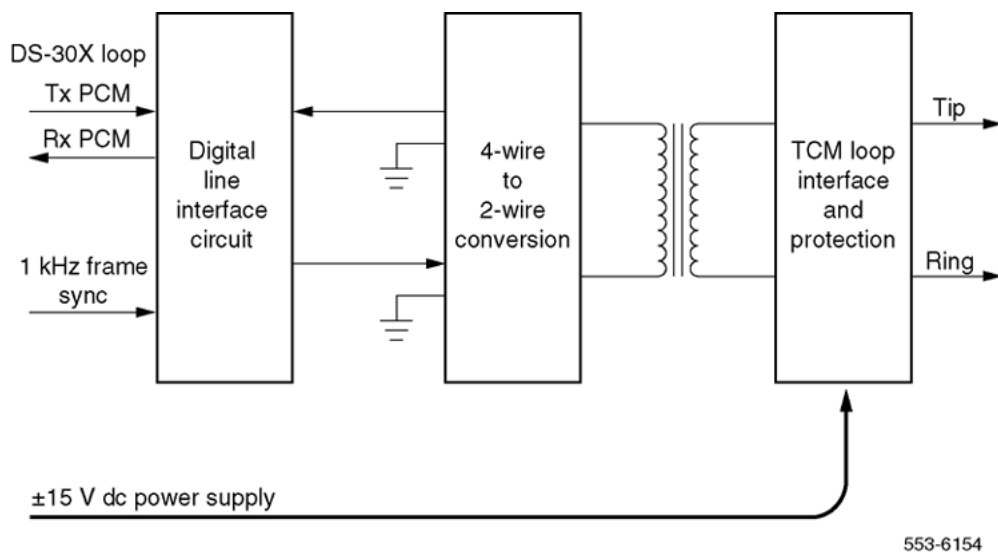

Figure 5: Digital line interface unit block diagram
DS-30Y network loops extend between controller cards and superloop network cards in the Common Equipment (CE). They function in a manner similar to DS-30X loops. See Figure 5: Digital line interface unit block diagram on page 42.
The digital line interface card contains one or more digital line interface units. See Figure 5: Digital line interface unit block diagram on page 42. Each digital line interface unit contains a Digital Line Interface Circuit (DLIC). The purpose of each DLIC is to demultiplex data from the DS-30X Tx channel into integrated voice and data bitstreams and transmit those bitstreams as Bi-Polar Return to Zero, Alternate Mark Inversion (BPRZ-AMI) data to the TCM loop. It also